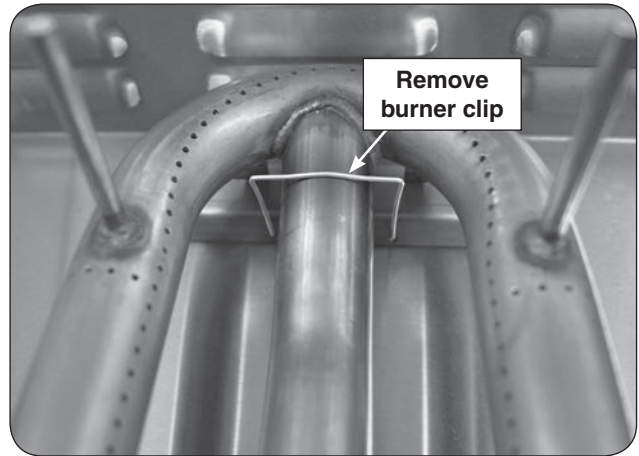

Fig. 32-1 Main burner removal
2. Locate the burner clip (located over the rear center tube of the burner) and slightly pinch and remove the clip from the burner support. See Fig. 32-1.